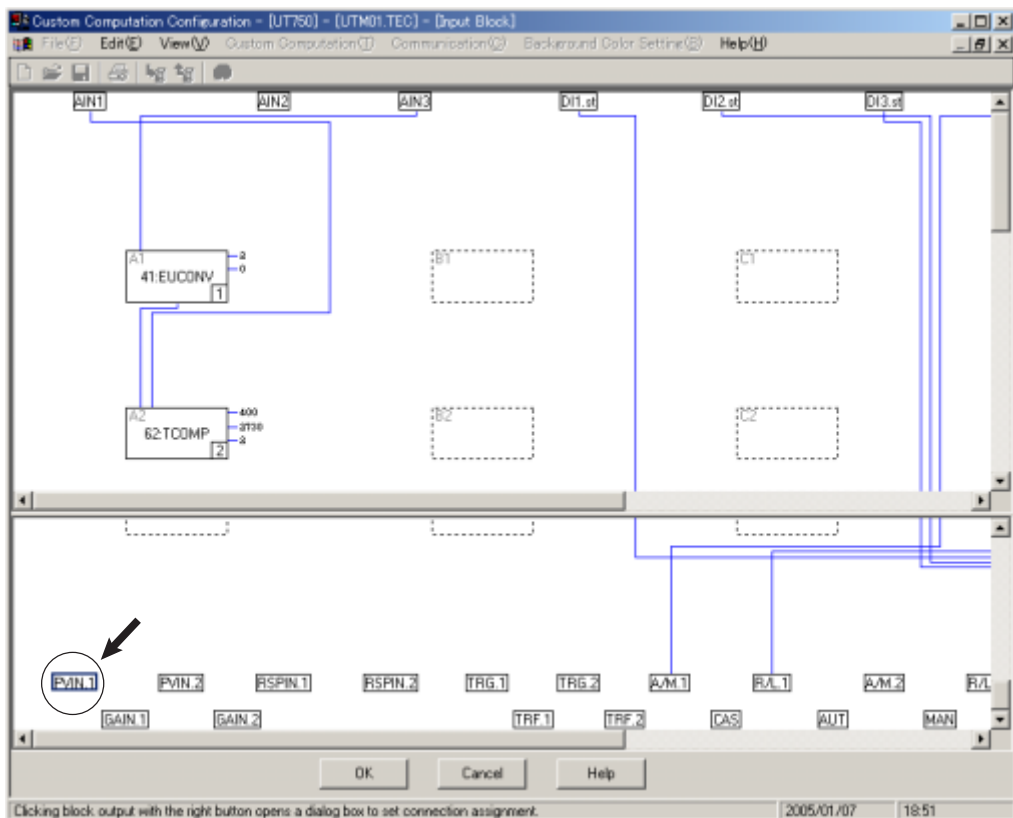

Figure 12.4.10 Output Signal Fed by Input Block
- (1) In the [Input Block] dialog box (Figure 12.4.10), click the <PVIN.1> output signal.